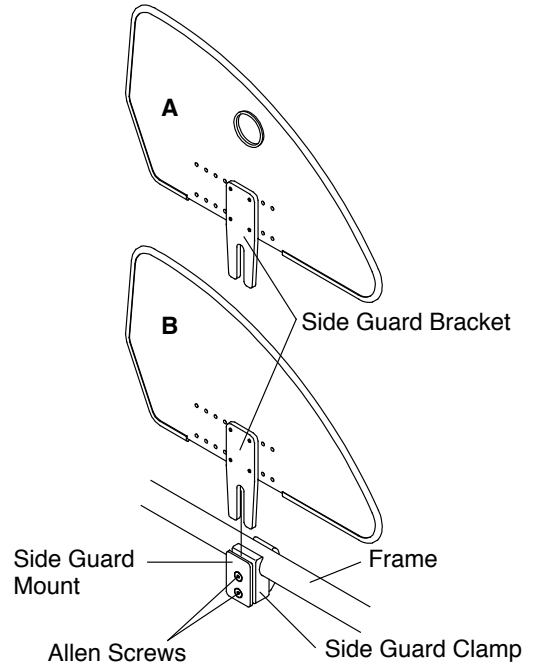

Figure 36
To remove either type of rigid side guard, lift the side guard out of the side guard mount by grasping it at the top or by placing a finger in the hole and pull it upward. See Figure 36. To replace, place the side guard bracket into the slot between the side guard mount and the side guard clamp and push down. See Figure 36.
You can adjust the "snugness" of the fit of the side guard bracket in the side guard mount by loosening or tightening the two Allen Screws in the side guard mount. See Figure 36.
Either type of rigid side guard can be made "non-removable" by firmly tightening the two Allen Screws in the side guard mount while the side guard is installed. See Figure 36.
1. Remove the side guard from the side guard mount. See Figure 36.